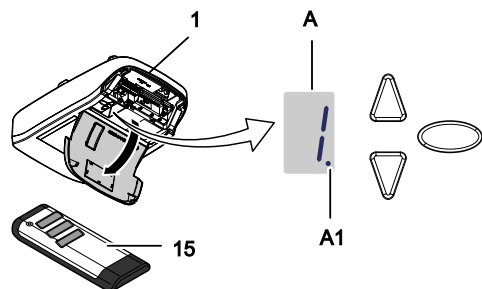

Fig. 4: Control elements
Mount the connector attachment (11) to the garage door (fig. 4).
If necessary, charge the accumulator pack (17a) according to the chapter "Charging the accumulator pack" (fig. 4).